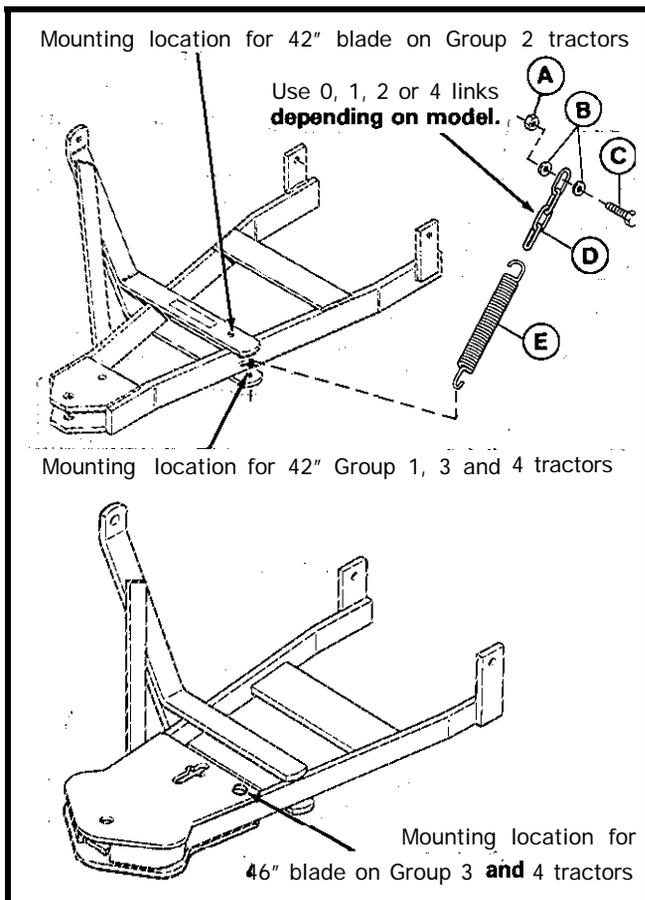

Figure 1. Kit Parts
6. Assemble the chain (D, figure 1) to the tractor as follows:
- On left-hand side, remove and discard the upper self-tapping screws that holds bumper to frame. This is the hole used for installing chain in the following steps, using **5/16-18 x 1-1/4 capscrew** (C), two **5/16** washers (B) and one **5/16** locknut (A).